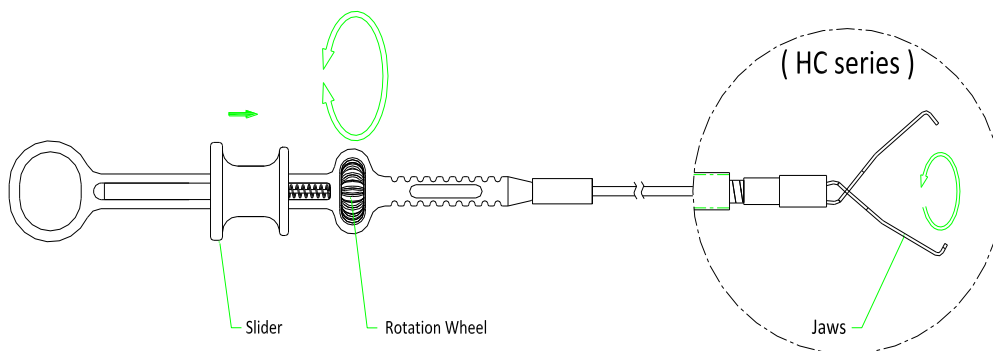

Figure 1.5: Rotate the Clip
1.5. To rotate the rotation wheel to adjust the angle between the clip and the lesion, until the clip is in the proper position for clipping. In order to obtain a better effect of the rotation, move the slider distally. As shown in Figure 1.5.